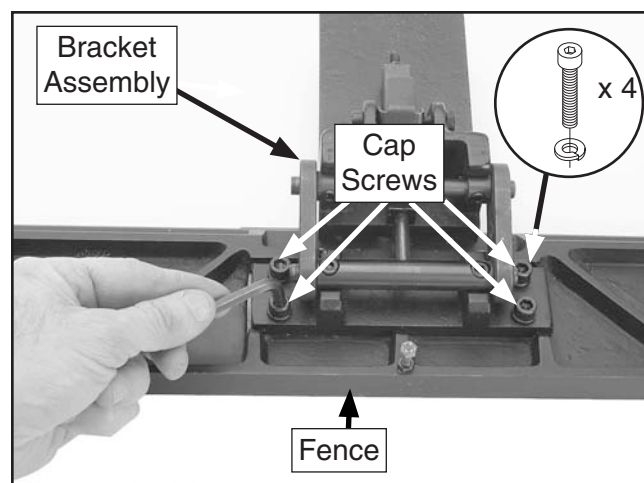

Figure 12. Assembling the fence assembly.
5. Use the (4) M8-1.25 x 20 and (4) 8mm lock washers to attach the fence to the fence bracket assembly, as shown in **Figure 12**.